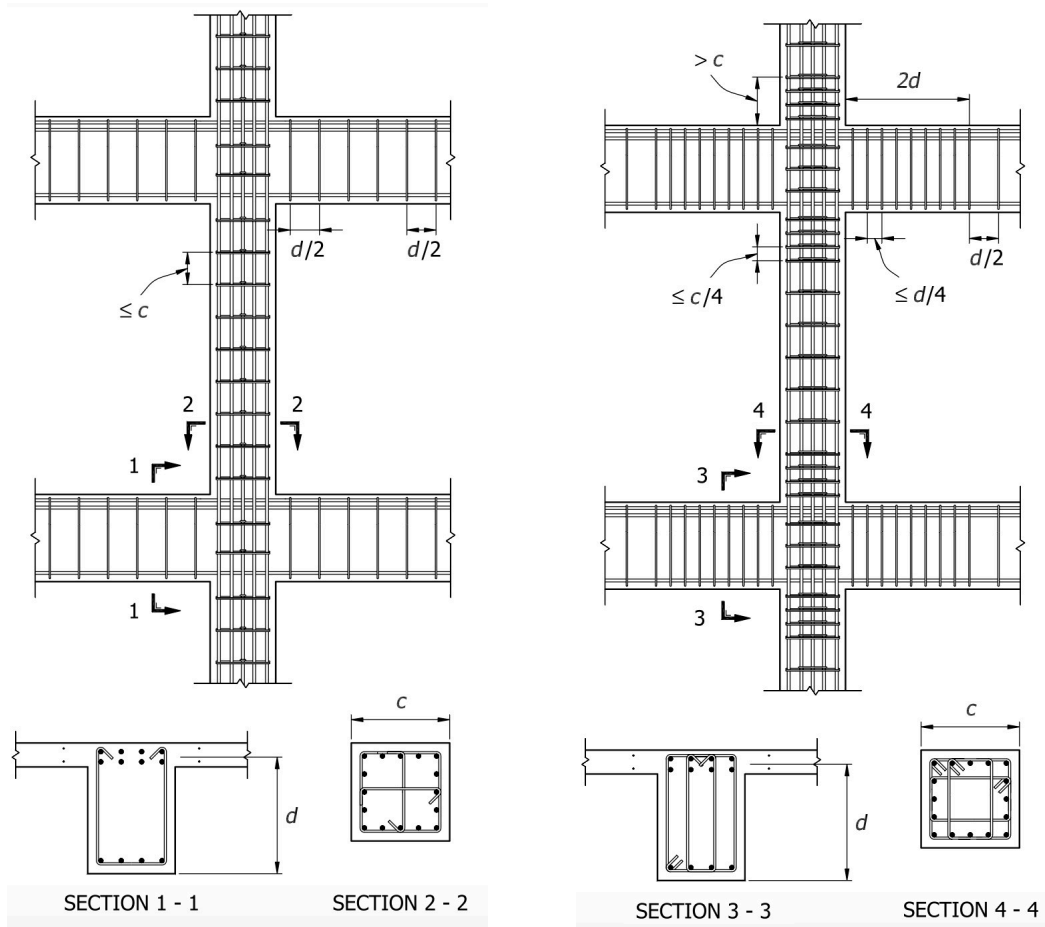

Figure Q5(a). Alternative RC detailing designs
- (e) Timber structures have increasingly been considered as a viable alternative to reinforced concrete (RC), steel and masonry structures. As a consultant, would you recommend timber as the main material for the load-bearing elements in earthquake-resistant structures? **[Note:** Marks will only be awarded if a well-reasoned justification is provided. The answer to this question is not expected to exceed 50 words] [5 marks]
- (f) For each of the five cases illustrated in Figure Q5(b), briefly explain the reasons why the seismic performance of these structures might not be satisfactory. **[Note:** Two marks are allocated for each case, and at least one justifying argument is expected for each of them] [10 marks]